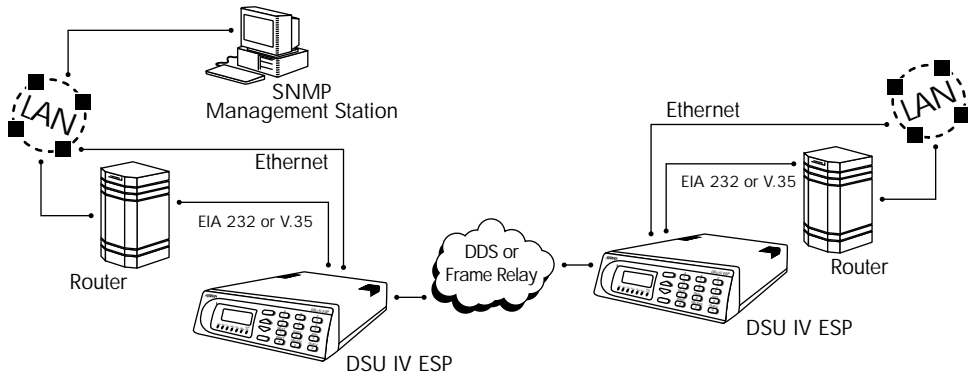

Figure 4-2
- A LAN. Connection is made through the optional 10baseT ethernet interface provided on the ESP ethernet card (part number 1204005L1). See Figure 4-2.